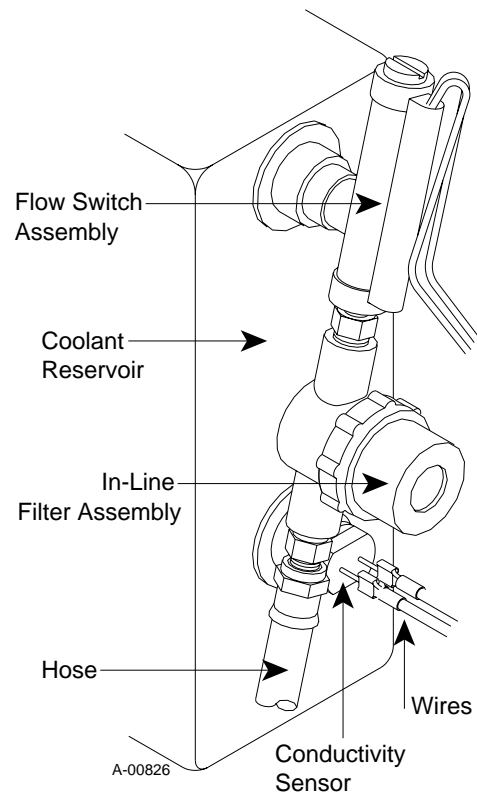

Figure 4-5 In-line Filter/Flow Switch Assembly
- b. Remove the In-Line Filter/Flow Switch Assemblies and Conductivity Sensor from the Coolant Reservoir and install it on the replacement Coolant Reservoir the same as noted in Step 12a. (See Figure 4-5.)